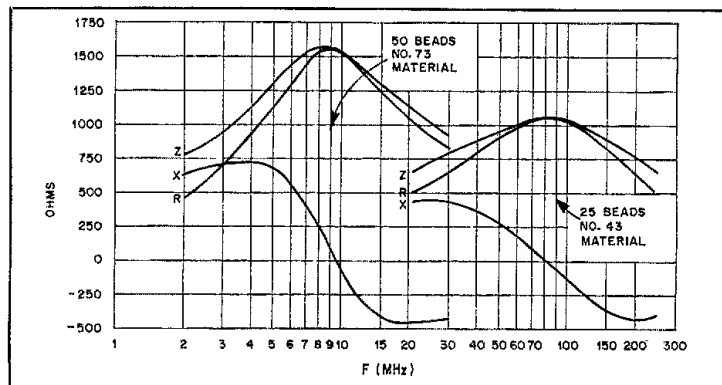

Fig. 3 — Graph of frequency vs. series impedance of coaxial-balun shield outer surface.
The graphs in Fig. 3 show the measured values of series resistance (R), reactance (X) and impedance (Z) versus frequency of the outer braid surface of a choke